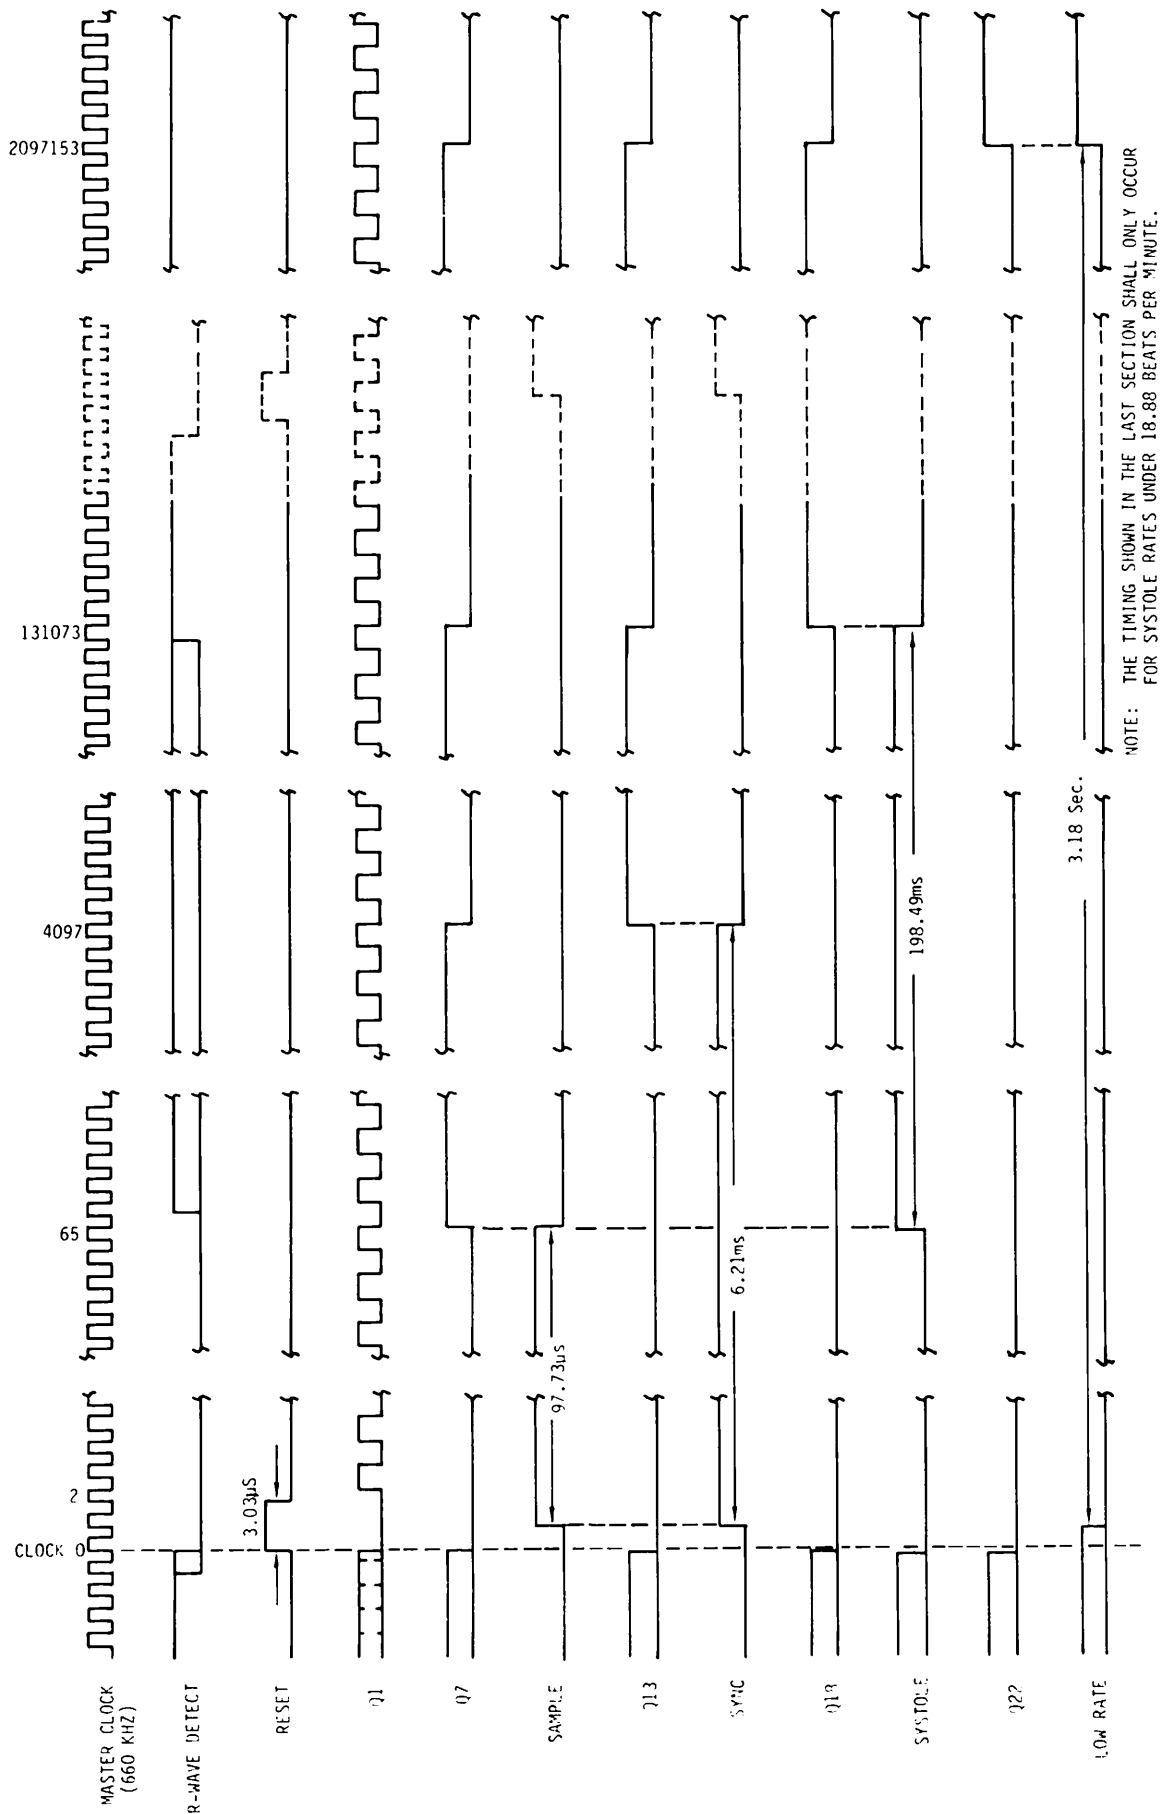

FIGURE 3-5. TIMING DIAGRAM, SYSTOLE PROCESSOR
- E. Systole Timing Generator. The systole timing generator consists of a crystal-controlled master clock (U10A, U10B, and Y1) driving a 24-bit countdown string, U12 and U13. From this countdown string a series of pulses is generated for each "R" wave detected. (See Timing Diagram of Figure 3-5).